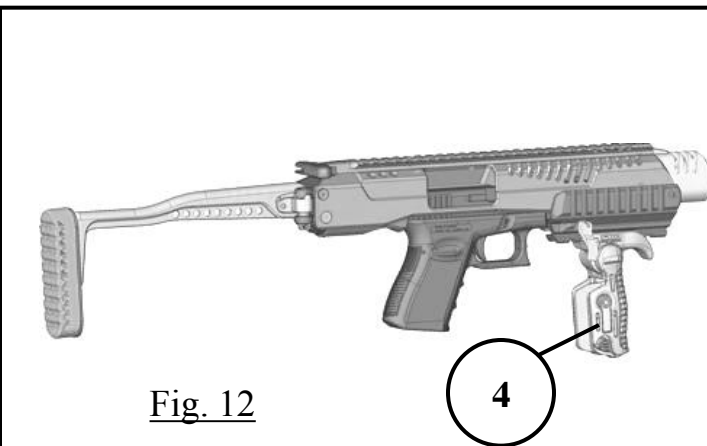

Fig. 12
Unfold the Triggerguard Foregrip (4) to vertical position (Fig.12).